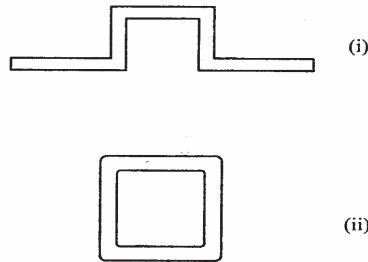

Figure 3
- (b) Name the type of chassis cross-sections shown in figure 3. (1 mark)